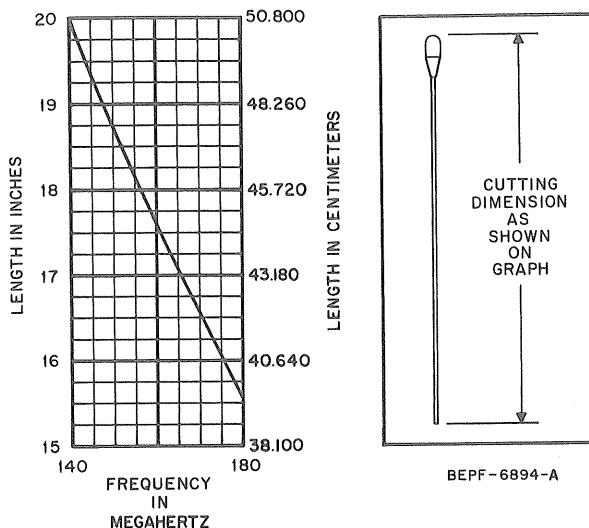

Figure 5. Antenna Cutting Chart
e. Cut the antenna to length in accordance with the antenna cutting chart in Figure 5, for the specific frequency of operation.